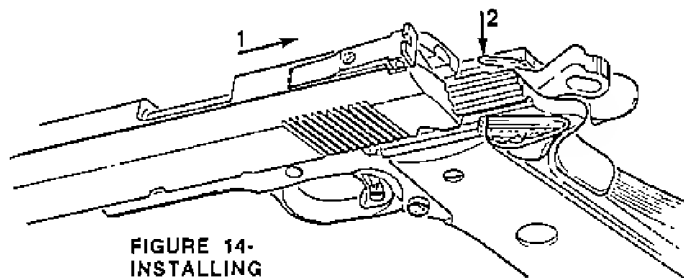

FIGURE 14-
5. Cock the hammer. Look at the top of the receiver and make sure the plunger lever is down (forward), tip the receiver forward to keep it down as you run the slide onto the receiver; see Figure 14.